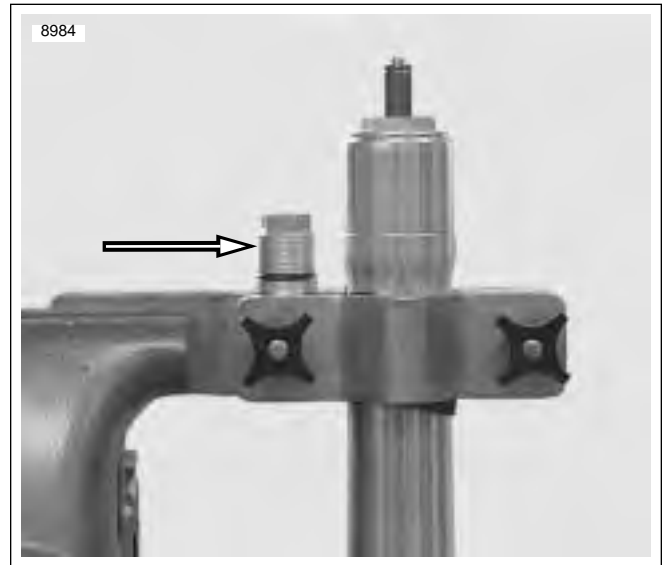

Figure 2-66. Removing Preload Adjuster
4. See Figure 2-66. Remove preload adjuster by turning counterclockwise.